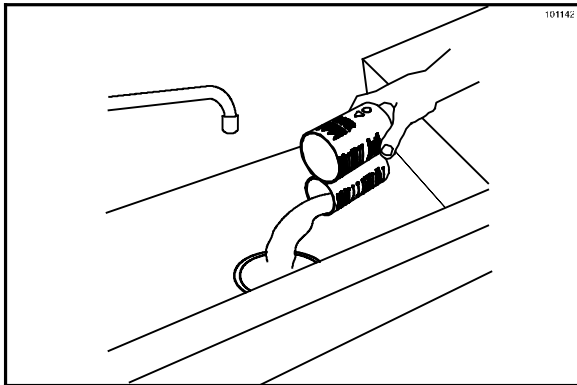

Figure 148
- Discard the product into the back sink. (See Figure 148.)